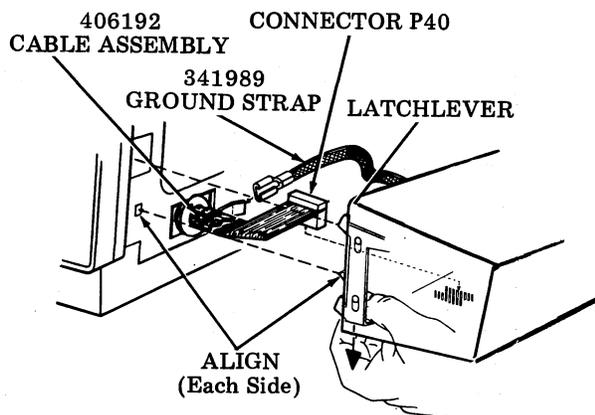

Fig. 28—Opcon Assembly
7.02 Opcon Assembly (Fig. 28):